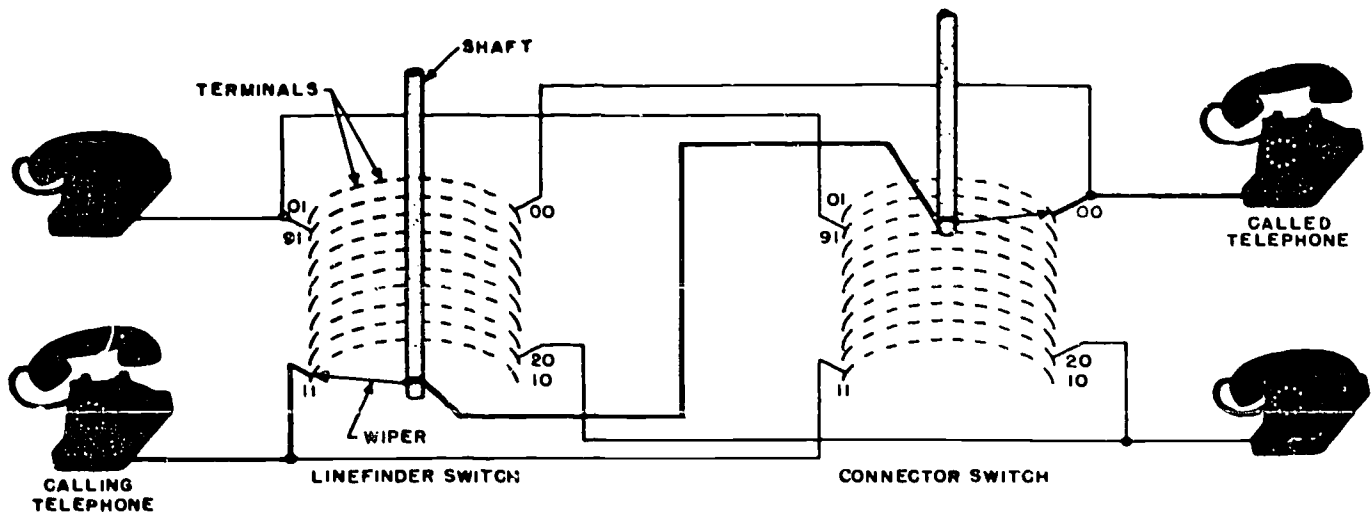
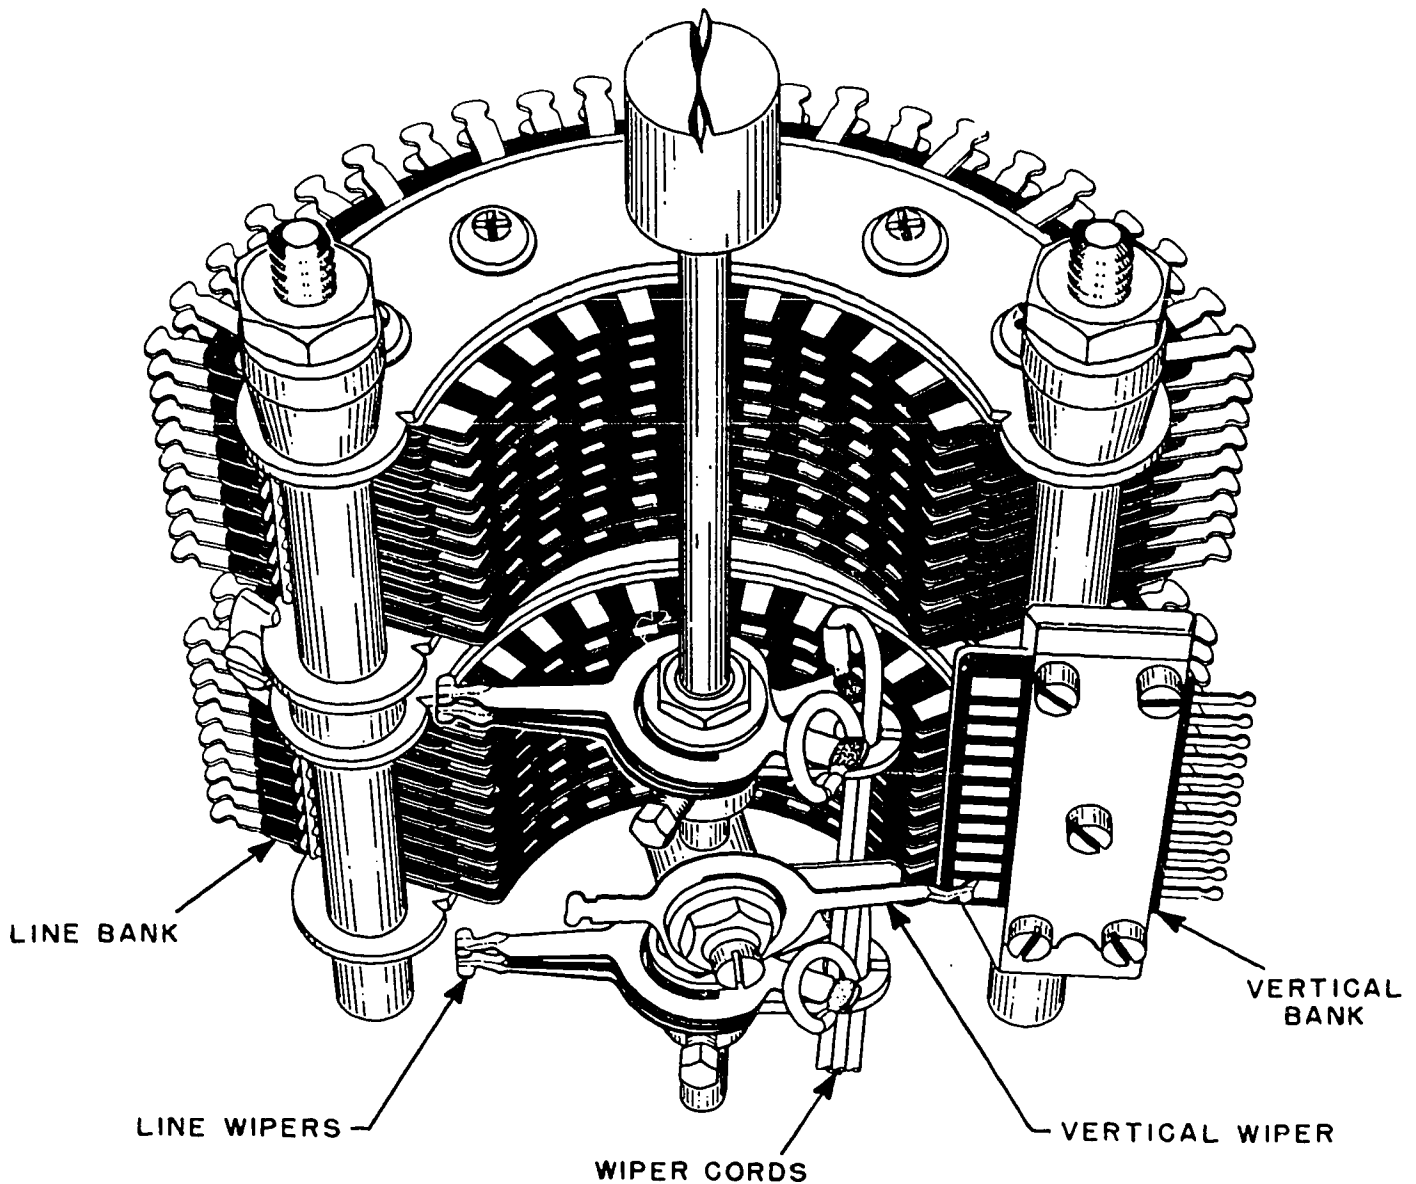

Figure 2-1. Simplified telephone dial switching action.
Figure 2-2. Telephone switch wipers and terminal banks.
In figures 2-1 and 2-2, you can see that each terminal bank of the switch has 10 rows of terminals with 10 terminals per row. These rows are numbered from the bottom to the top with the numbers 1 through 0, the 0 taking the place of 10. Also, the terminals in each row are numbered from left to right with the numbers 1 through 0. These row and terminal numbers combine to form a number for each terminal in the bank. For example, the telephone shown in the upper left corner of figure 2-1 is connected to terminal 91. The number 91 indicates that the phone is connected to the 1st terminal in the 9th row. As another example, the telephone shown in the lower right corner of figure 2-1 is connected to the 0 terminal in the 2d row; thus its number is 20. When a switch (such as the connector switch shown in figure 2-1) is dialed by the calling telephone, the wiper moves upward in response to the first digit dialed and then to the right in response to the second digit. Thus the dialing of 00 into the connector switch (figure 2-1) would place the wiper in the position shown.
Although figure 2-1 shows only one bank for both switches, the actual switch (fig. 2-2) has two horizontal line banks and a vertical bank. Furthermore, it has three wipers for contacting the terminals of these switch banks. The wiper cords interconnect the wipers and bank terminals with the remaining circuit components.
6. If the user at the lower right of figure 2-1 wants to originate a call, what switch does he activate?